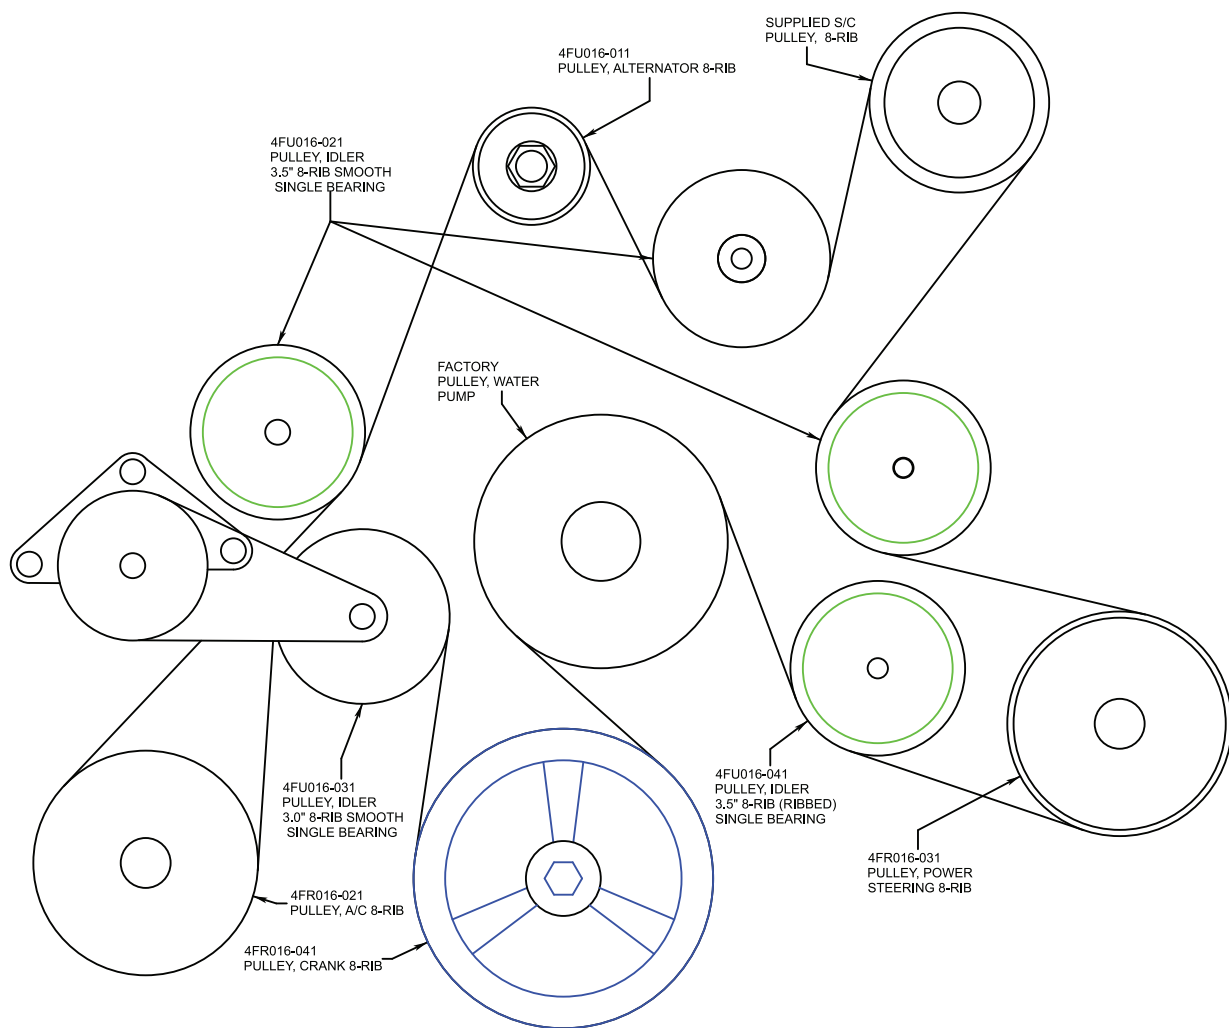

Fig. 6.1-c
- J. Loosely install the 8-rib drive belt provided using Fig. 6.1-c for belt route reference. Not all pulleys are installed at this time.
**NOTE:** See Fig. 6.1-d for the next few steps.